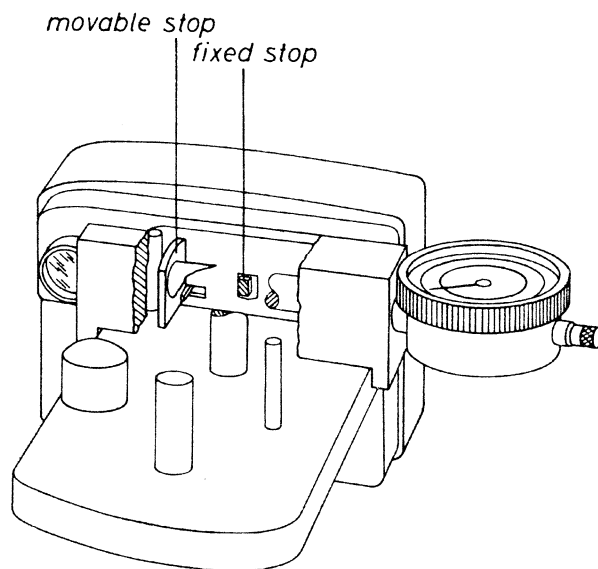

Fig. 34.1
- 2.3 Place the test equipment on the plate; the fixed stop of the test equipment fits closely to the left edge of the film gate (see Fig. 34.1).
Turn the intermediate wheel counter-clockwise until the claw presses against the movable stop (see Fig. 34.1) which may be ascertained by the needle of the gauge.